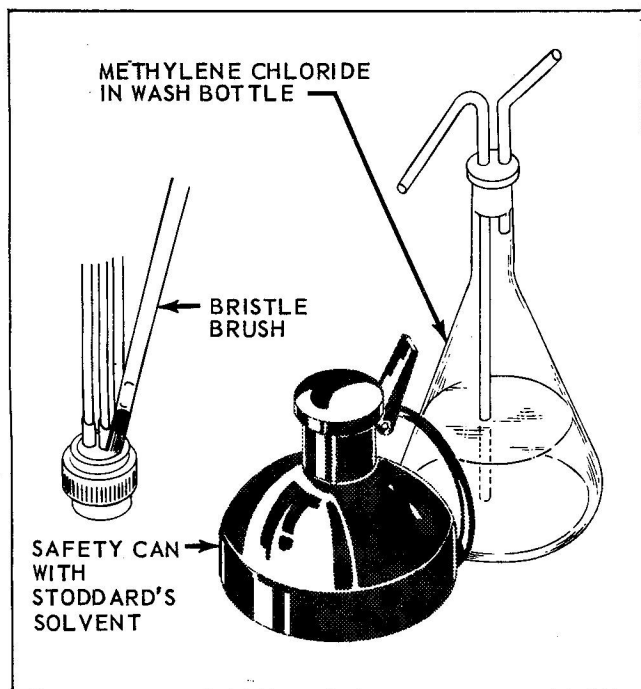

Figure 3-48. Cleaning Connector Prior To Potting
d. Clean the complete connector assembly by scraping off rosin and then brush vigorously in new unused, Stoddard's Solvent followed by second rinse in clean Stoddard's Solvent. See Figure 3-48.